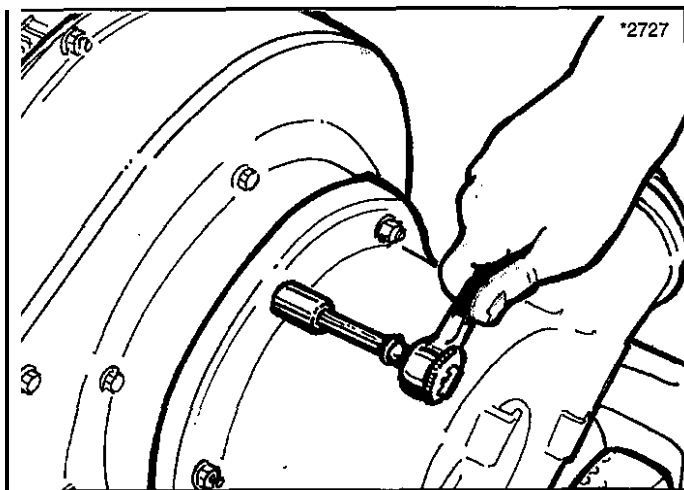

Figure 22. Remove Vacuum Nozzle Housing Nuts
7. Using a 1/2" socket wrench, remove the (4) 5/16-18 hex nuts that secure the vacuum nozzle housing to the shredder housing (Figure 22).